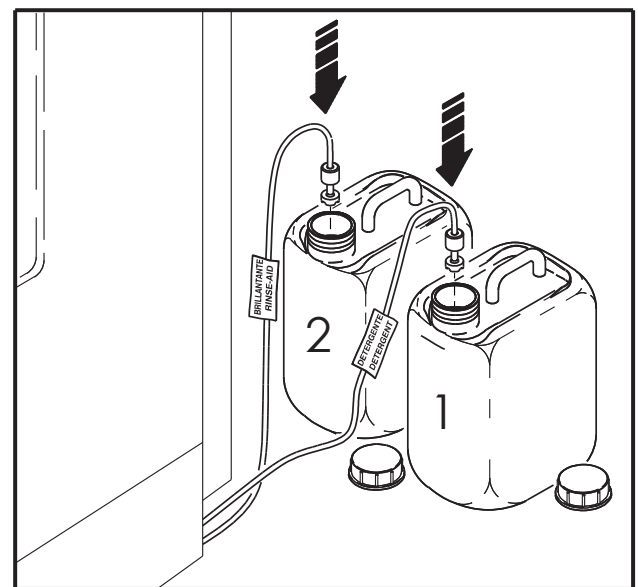

Fig. 22
- In case the dishwasher is supplied with automatic detergent (1)/rinse additive (2) dosing device, check the detergent and rinse additive level in the external tanks and replace or fill up if necessary (fig. 22)